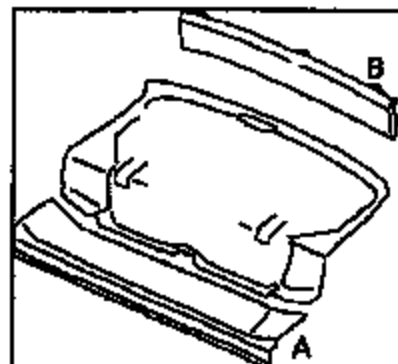

Figure 1
1. Lift the rear cover (Figure 1, Item A) up and out. Unclip the rear roof lining (Item B) towards the front and lift the rear wall lining out.